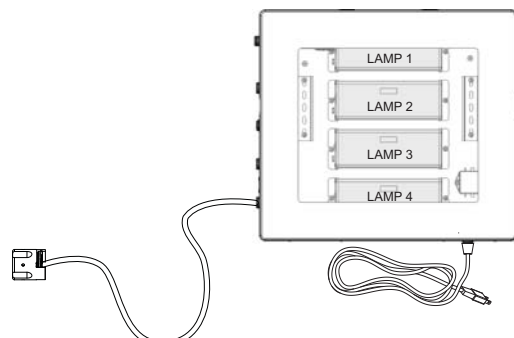

Figure 3 Drip Loop
- The enclosure should be mounted either above or beside the reactor chamber. Never mount vertically with AC connector at top of controller to prevent moisture from running down cordage and causing a potential fire hazard. Drip loops in all cordage connected to controller is highly recommended. Refer to Figure 3.
- Mount the Hi-Flo enclosure to the wall, near the reactor chamber. Ideally place the enclosure above the reactor and away from any water connection point, to prevent any water from potentially leaking onto the enclosure by means of a leak at a connection point or a “sweating” system. Make sure you allow for a “drip-loop” Figure 3 on the lamp, sensor and power cord, again, to prevent any water from potentially entering the enclosure. Affix the green ground wires to the grounding lug at the end of the reactor vessel and securely fasten with the lugnut provided Figure 4.